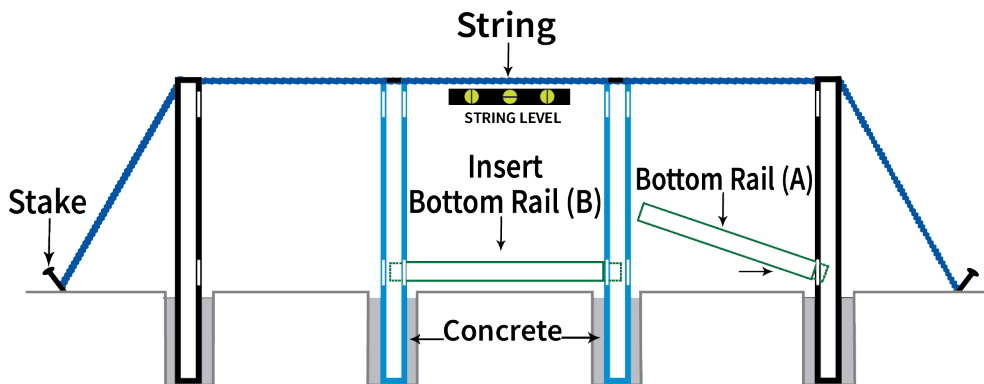

Fig.A2
Slide and insert the Bottom Rail (A), groove side up into the bottom hole of the post. Starting at end or corner place the next post into the next hole. Now slide the next Bottom Rail into the bottom hole of the next post (Fig. A2). Repeat these steps until all rails are inserted (B).